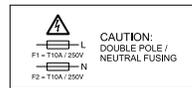

Figure 4. Fusing caution label
4. Verify that the fusing caution label is installed on the 2104 Model DS4 or Model TS4 power supply. See Figure 4.